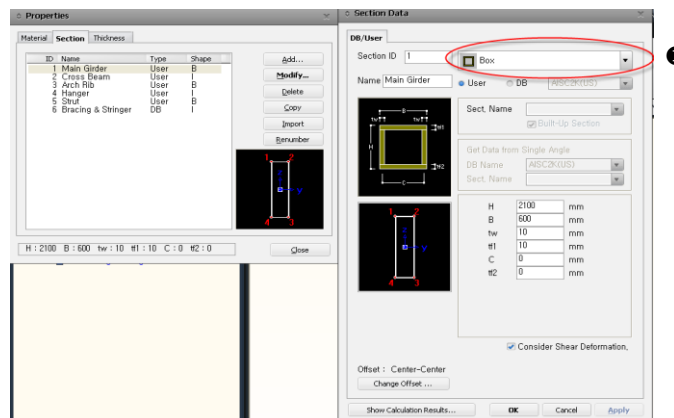

Figure 4.6 Section Properties and Section Data Dialog Box
3. Confirm "1" in the **Section ID** field of the **DB/User** tab (Figure 4.6).
5. Select "**Box**" in the **Section Shape** selection field (Figure 4.6¹).
15. Select "**I-Section**" in the **Section Shape** selection field (Figure 4.6¹).